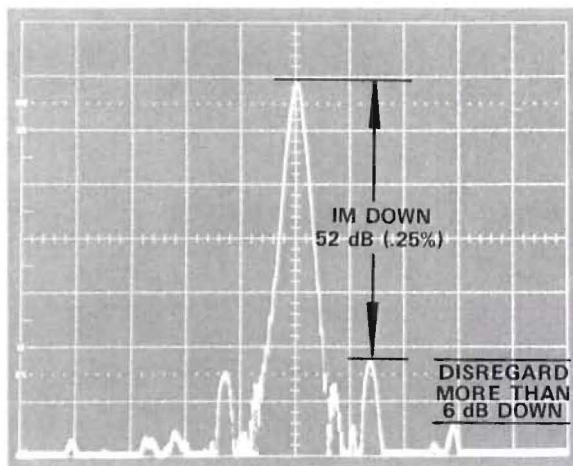

Figure 28 SMPTE Modulation Method of Measurement
6. Figure 28 is a typical display. The sidebands that appear around the base of the 6000 Hz tone are modulation components of 60 and 120 Hz, generated by the 60 Hz tone. Use the chart in Figure 21 to calculate the sum of the 60 Hz, 120 Hz, and other visible modulation components that appear on one side of the carrier only. **Do not** add the upper and lower 60 Hz or 120 Hz components together. Percentage of intermodulation distortion can be calculated from the chart in Figure 20.